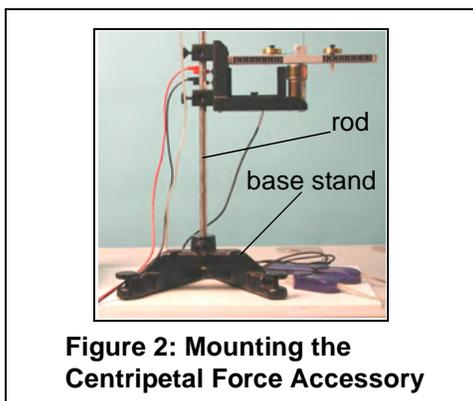

Figure 2: Mounting the Centripetal Force Accessory
2. Use the rod clamps to attach the Centripetal Force Accessory to the rod (See Figure 2).